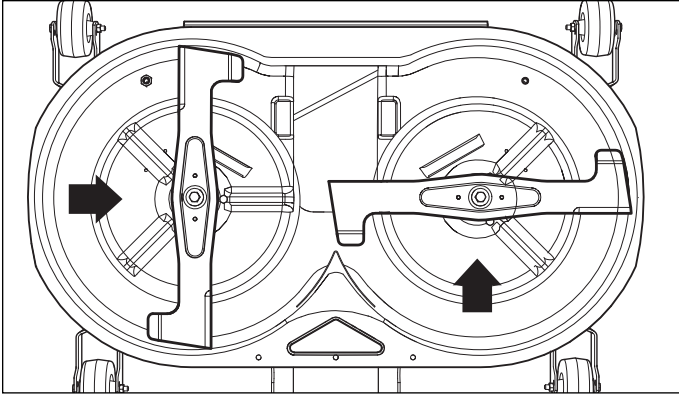

Figure 42. Mower Blade Timing
8. Check that the blades are positioned perpendicular to each other (see Figure 42). If not, perform the “Check Mower Blade Timing” procedure in the Maintenance section.